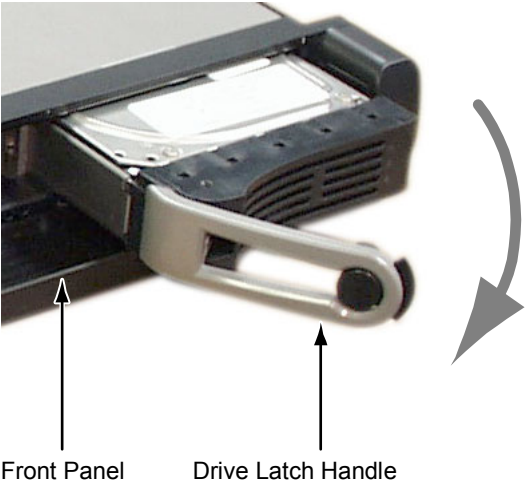

Figure 3. UltraTrak Disk Drive Access
1. Unlock and open the Front Panel Door (see Figure 3) on the UltraTrak.